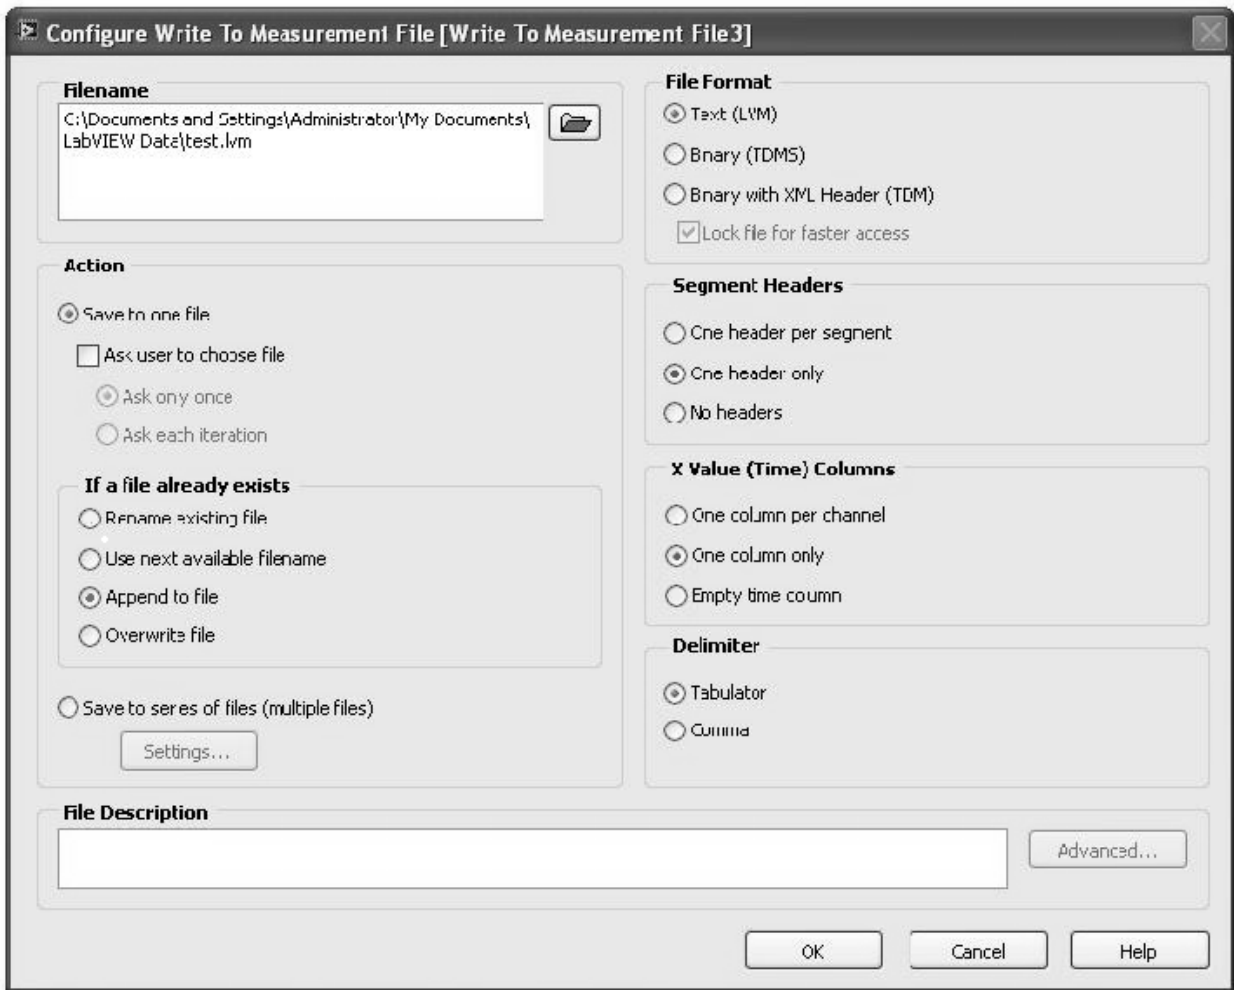

Figure 1.4.6 Write to Measurement File Express VI
This Express VI is an expandable node as are most Express VIs, such as the DAQ Assistant. The VI appears as the icon shown in the first view of Fig. 1.4.6 when placed in the block diagram. The VI may also be expanded by placing the "Position" (arrow) cursor over one of the top or bottom blue "handles" and dragging the handle until the VI appears as the second view in Fig. 1.4.6. This has the advantage of making it easier to wire the input and output terminals although at the expense of space in the block diagram.
**18.** Place the cursor over the “filename” input terminal (it’s the bottom terminal on the left side of the unexpanded node-see view number 1 of Fig. 1.4.6), right-click the mouse, and create a control. The control will appear in the front panel and the corresponding terminal will appear on the block diagram.